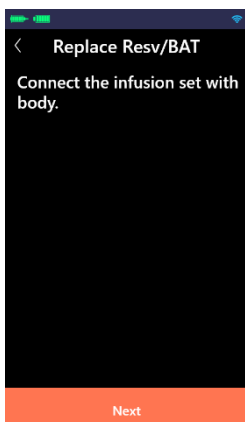

Figure 4.22
(4) Connect the infusion set with the body (as shown in Figure 4.22). When it is completed, click "Next".